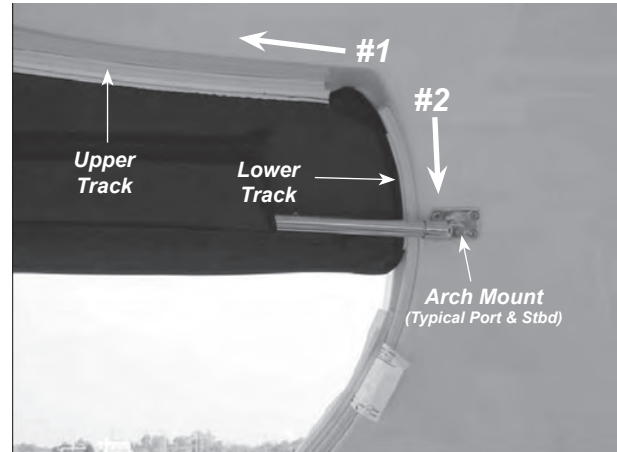

Figure O2: Upper & Lower Tracks and Arch Mount
- 1) Orient the canvas top to match the orientation of the hard top. Ensure the interior seams will be facing inside. Starting at either end, thread the opposite end of the canvas through the upper track of the hard top (#1). Continue feeding the canvas all the way through the track until completely threaded. Feed ends of canvas top into the lower track running down the hard top (#2). See Figure O2. Once the canvas top is installed in the tracks, allow it to hang in place.
- 2) Attach the stainless steel bow to the port and starboard arch mounts using an adjustable wrench. See Figure O2.